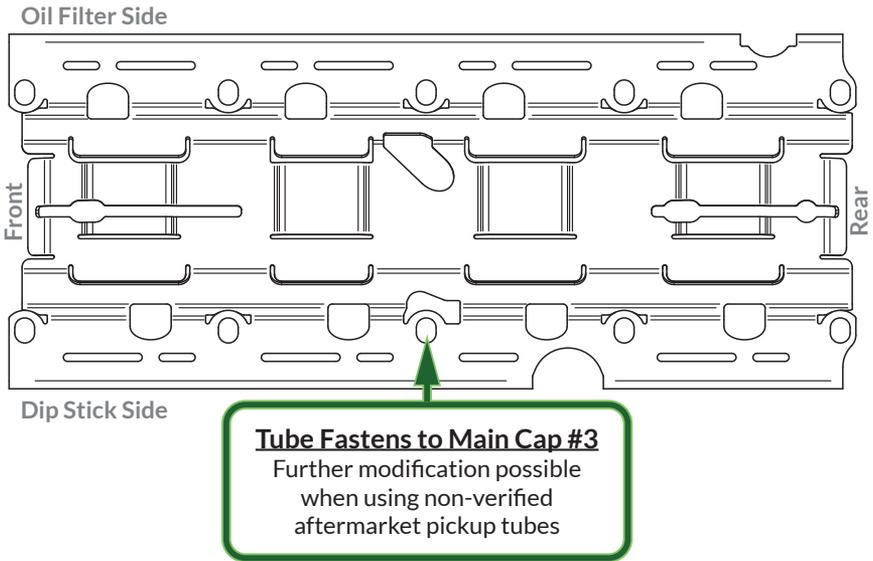

Figure 2 - Pickup Tube Fastening Locations on Main Cap #3
- The aftermarket oil pickup tube fastens to the main cap location shown in Figure 2.